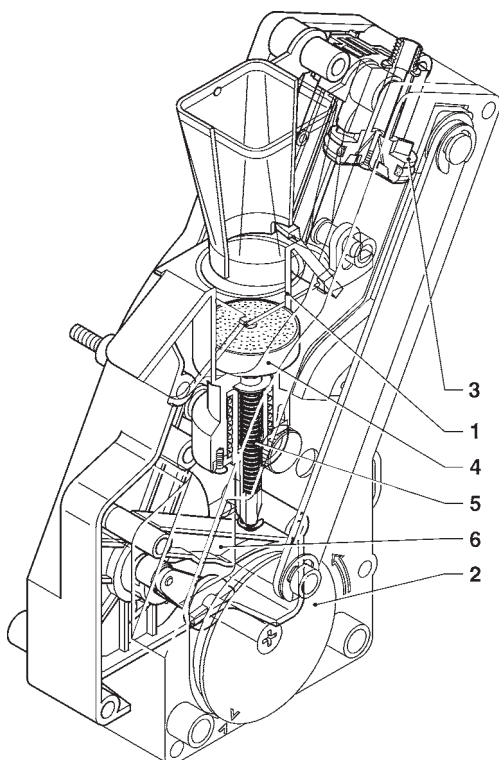

Fig. 17
When making a coffee selection, during the coffee grinder operation the unit rotates 180° to bring the brewing chamber into a vertical position (see Fig. 17).
The coffee falls into the vertical brewing chamber (1) (see Fig. 17).